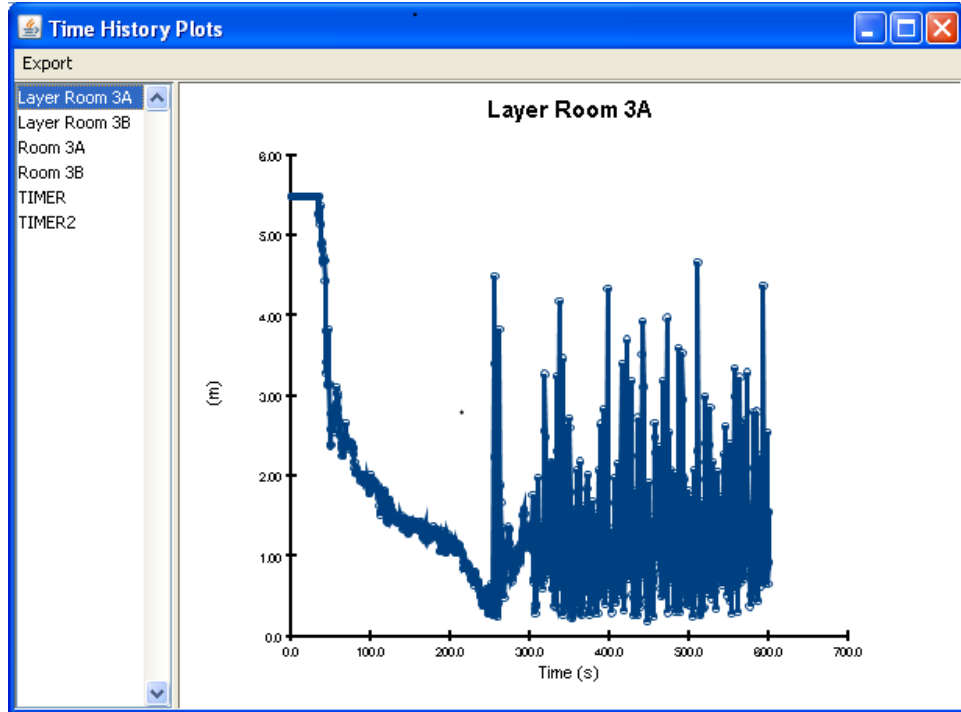

Figure 7.24. Layer height in room 3A
2. A dialog will appear showing the different types of 2D results that are available. Select **switchgear_devic.csv** and click **Open** to view the device output. The first display will be the layer height in Room 3A, Figure 7.24.